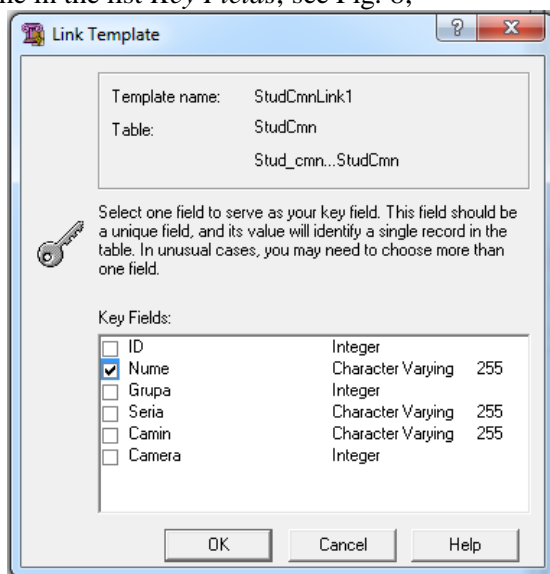

Fig. 8. Window *Link Template*
1. create a linking template (*New Link Template*) which identifies that table field used for linking of a record to an object. For our example, we choose the field Name in the list *Key Fields*, see Fig. 8;